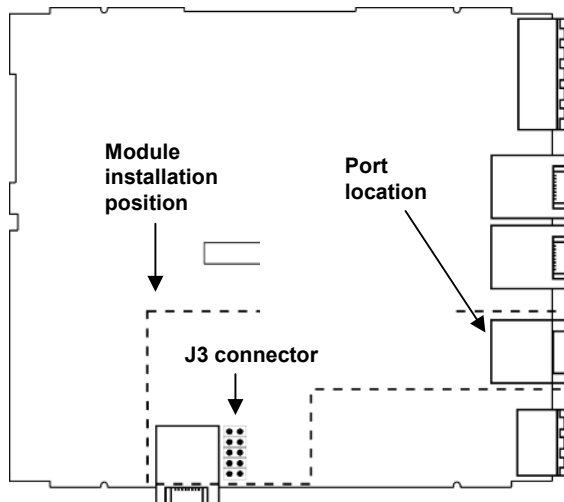

Figure 2. Controller, Main PCB Board
3. Locate the J3 connector shown in Figure 2.